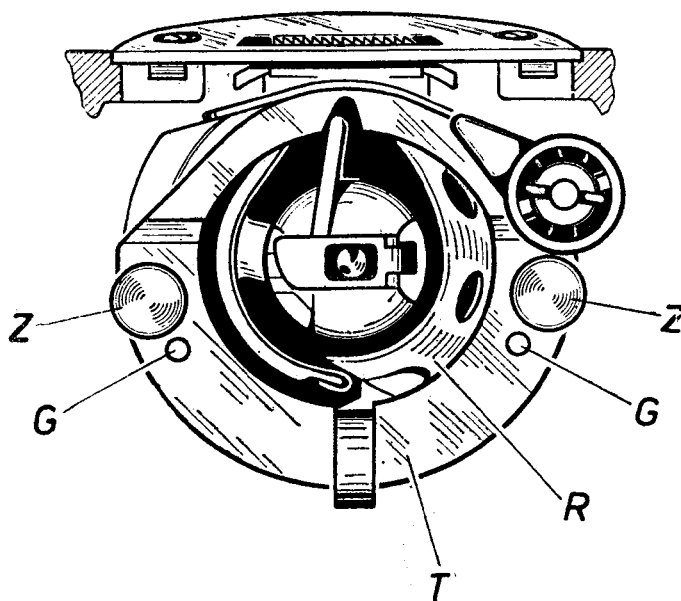

Fig. 10
- d. Push the two race snap pins « Z » (see Fig. 10) outward, then remove the race cover plate « T » by pulling it away from the shuttle race.
- h. Place the race cover plate « T » into the two small studs « G » and push the race snap-pins « Z » back into their former position. (see Fig. 10).